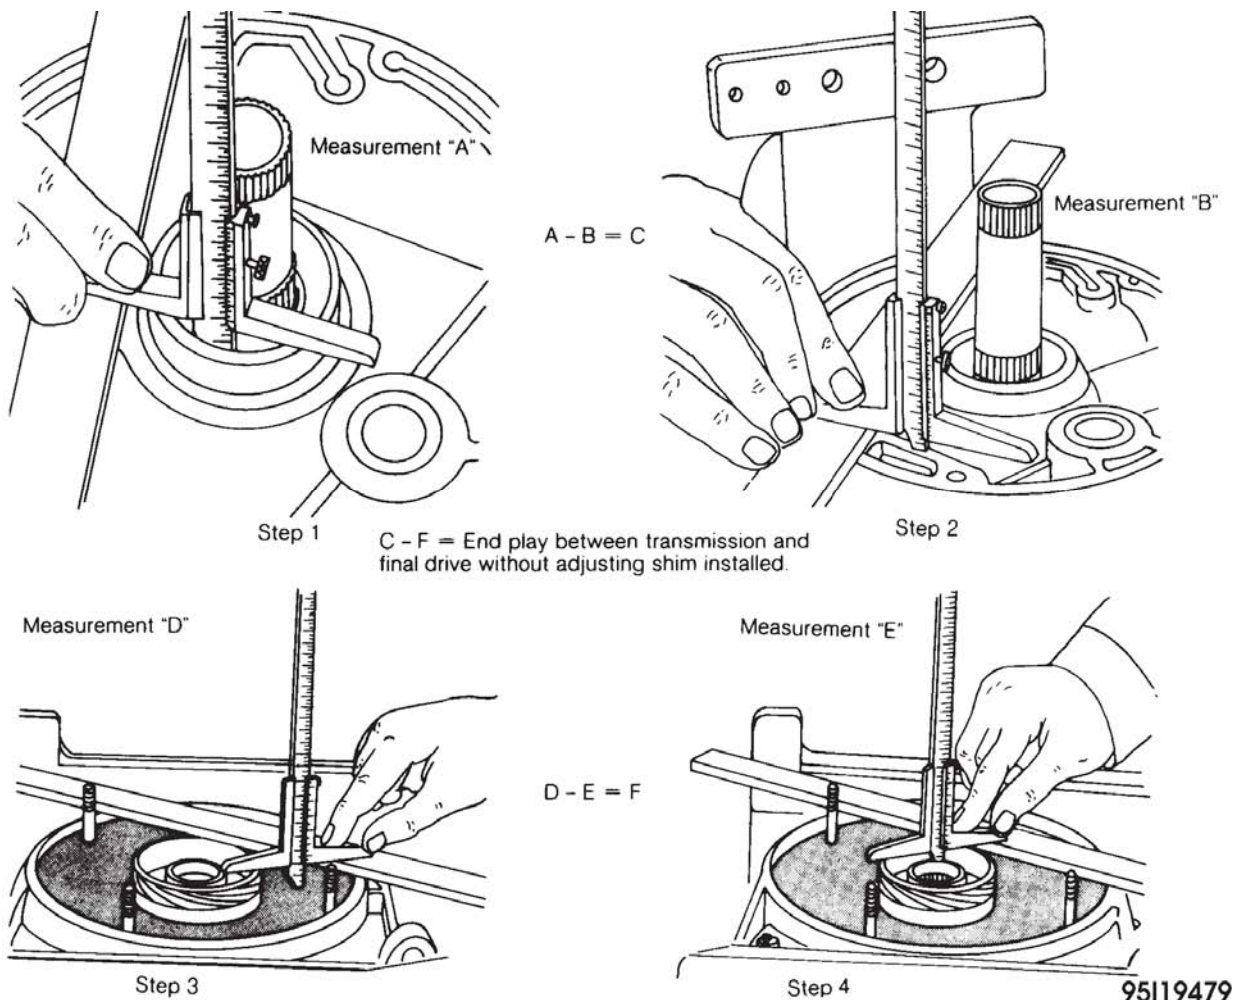

Fig. 35: Measuring Transaxle-To-Final Drive End Play
1. Measure play between final drive and transaxle. Place a straightedge on transaxle attaching face of final drive housing. Using a depth gauge, measure distance from top surface of straightedge to surface of pinion bearing inner race. See **Fig. 35**. This is measurement "A".